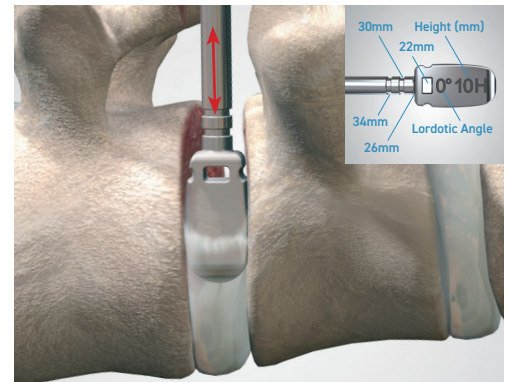

Figure 7
- ▲ After distraction has been achieved, attach a suitable implant sizer to the quick-connect handle. Length and height measurements are clearly marked on the straight sizers (Fig. 7).